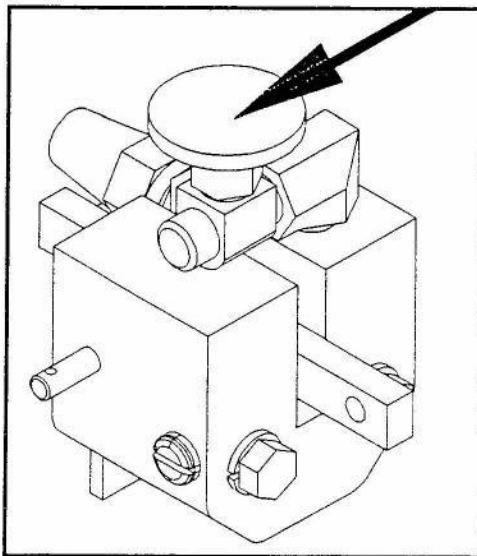

Figure 15
3. The cleaner flows from the electrical solenoid valves to the mechanical thumb knob valves. These valves are adjustable and control the cleaner flow by the operator turning these valves more open or more closed. The recommended setting is **2** turns open for full lane stripping and **1** turn open for back end stripping. See Figure 15.